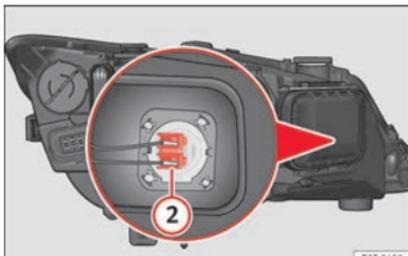

Fig. 108 Main beam headlight bulb.
- Slide connector » Fig. 108 ② to the left or right and pull.